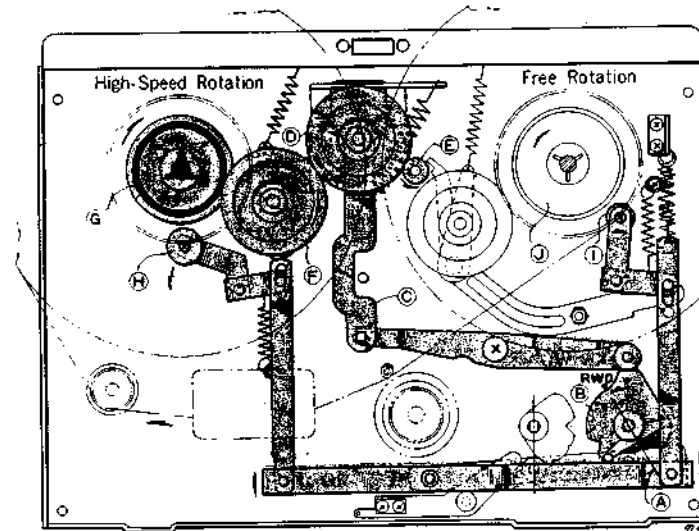

Fig. 4
Turn the *FAST FWD-REWIND knob* (A) to "REWIND" position, and the *cam* (B) under the knob pushes the *Lever* (C) up. The *Idler* (D) moves into the space between the upper part of the rotating *Motor drive bushing* (E) and the *Intermediate Pulley* (F) to transmit the high-speed rotation of the motor through the intermediate pulley to the *Supply Reel Spindle* (G). At the same time, *Brake Rollers* (H) and (I) come off the reel spindle to free the *take-up reel spindle* (J), thereby rewinding the tape into the supply reel at a fast speed. (See figure 4)